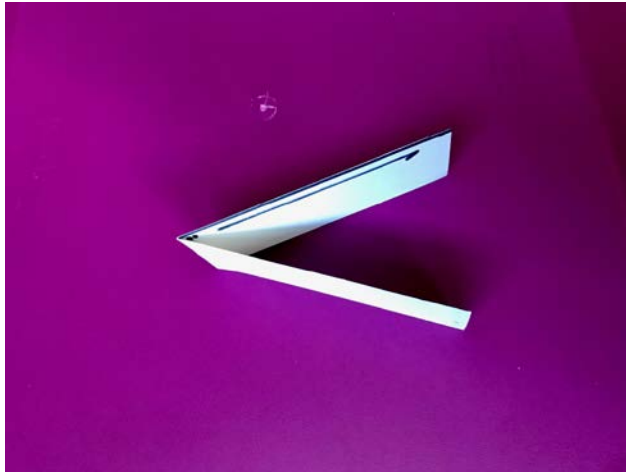

Figure 5. Fold in the middle
6. Tail assembly: Take your second section of paper, and fold in the middle to make a tight crease. See Figure 5.